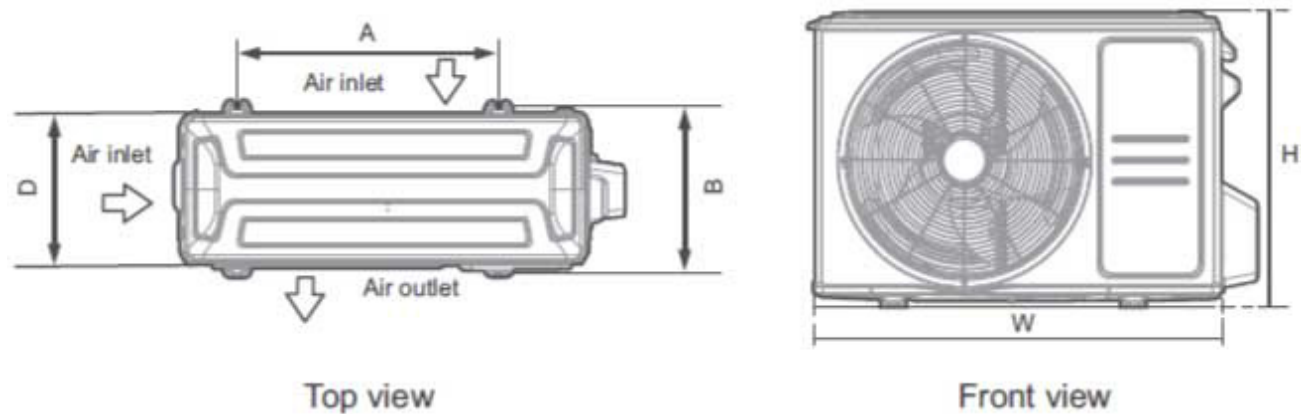

Fig. 9 —Anchor Outdoor Unit
- The outdoor unit can be anchored to the ground or to a wall-mounted bracket with bolt(M10). Prepare the installation base of the unit according to Fig 9.